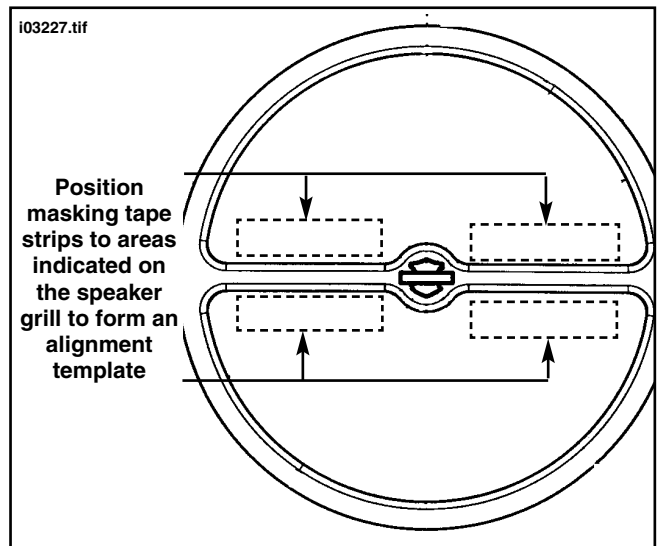

Figure 1. Front Speaker Trim Ring
31. See Figure 1. Apply masking tape directly to the speaker grill above and below the trim ring cross bar and on both sides of the center Bar and Shield logo. This will serve as an installation template.